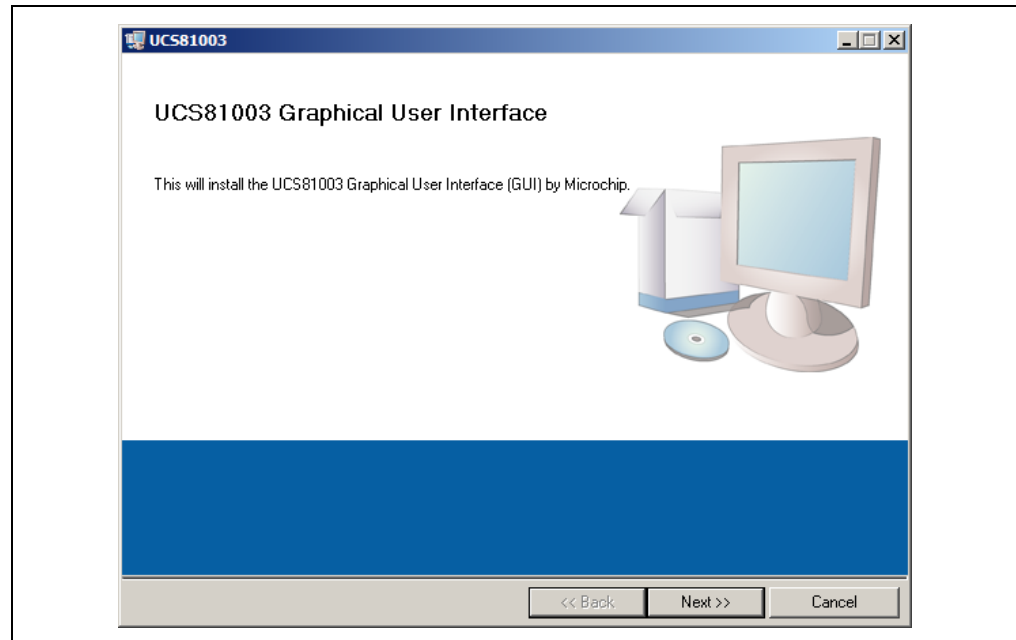

FIGURE 2-6: *Software Installation – Initialize Window.*
1. Download the software archive from the board's web page, unzip it and double-click the `Setup.exe`, to start the installation. Figure 2-6 shows the initial installation screen, which displays briefly as the setup program loads.